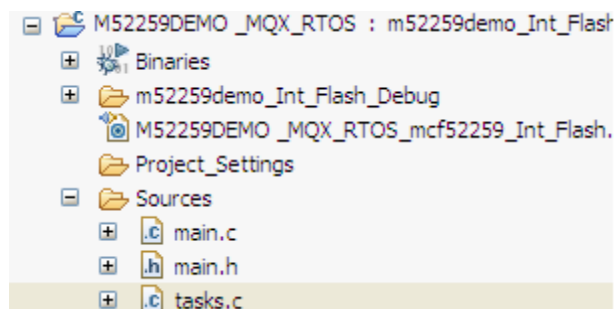

Figure 20. Adding *tasks.c* File to Project Directory Structure.
3. After the step #2, the directory structure must look as shown in Figure 20.